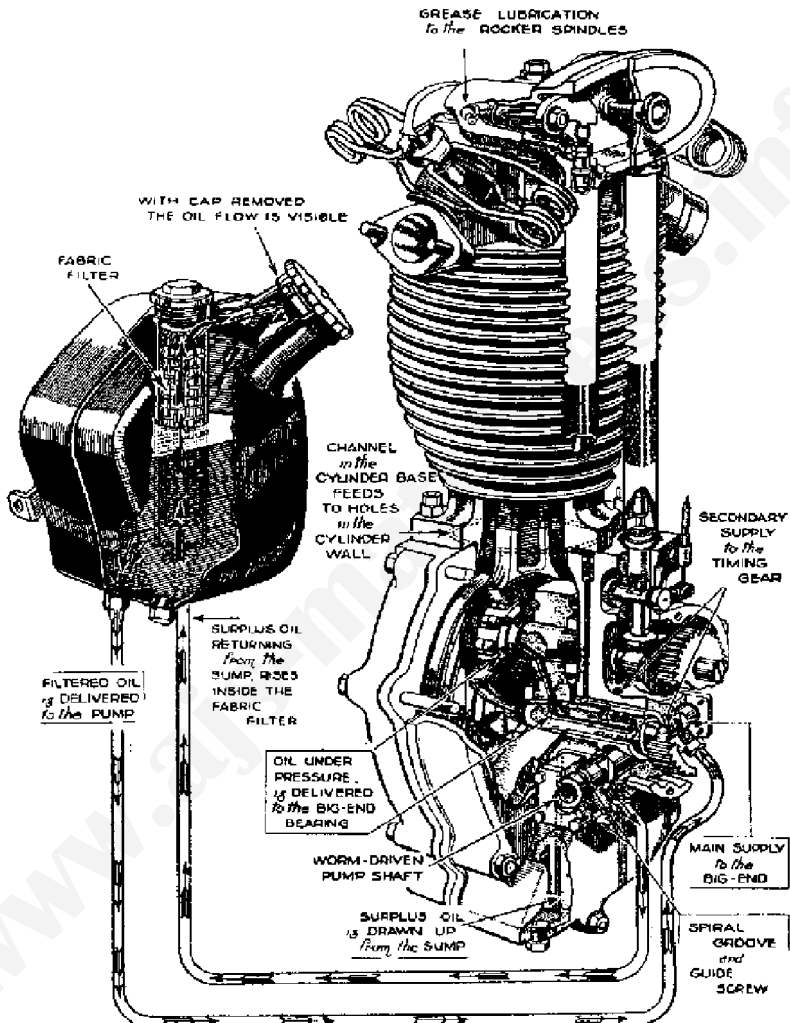

FIG. 12.—ENGINE LUBRICATION SYSTEM FOR MODEL G3-
*Model G3.*—Hairpin valve-springs were introduced. Fig. 12 shows the general layout and lubrication system.